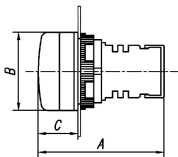

Figure 1 Overall dimensions
1) See Figure 1 and Table 2 for overall and installation dimensions.